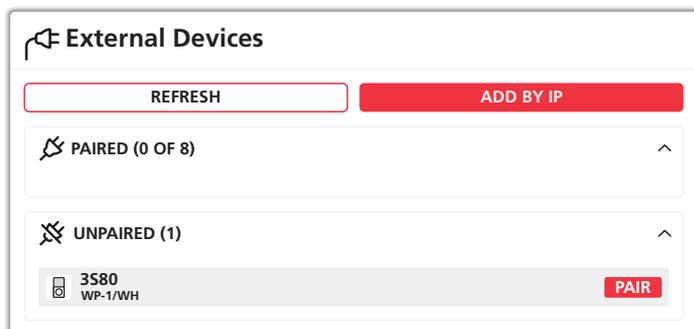

Fig. 8
- 1) On the user interface of the amplifier, open the view "Settings ⇒ External Devices". As shown in fig. 8, wall-mounted remote controls that have already been connected are listed under **PAIRED** (in this case: none). Under **UNPAIRED**, the wall-mounted remote controls available for connection and found in the subnet of the amplifier are listed. In the example shown below, only the wall-mounted remote control WP-1/WH with the pairing name 3S80 was found.